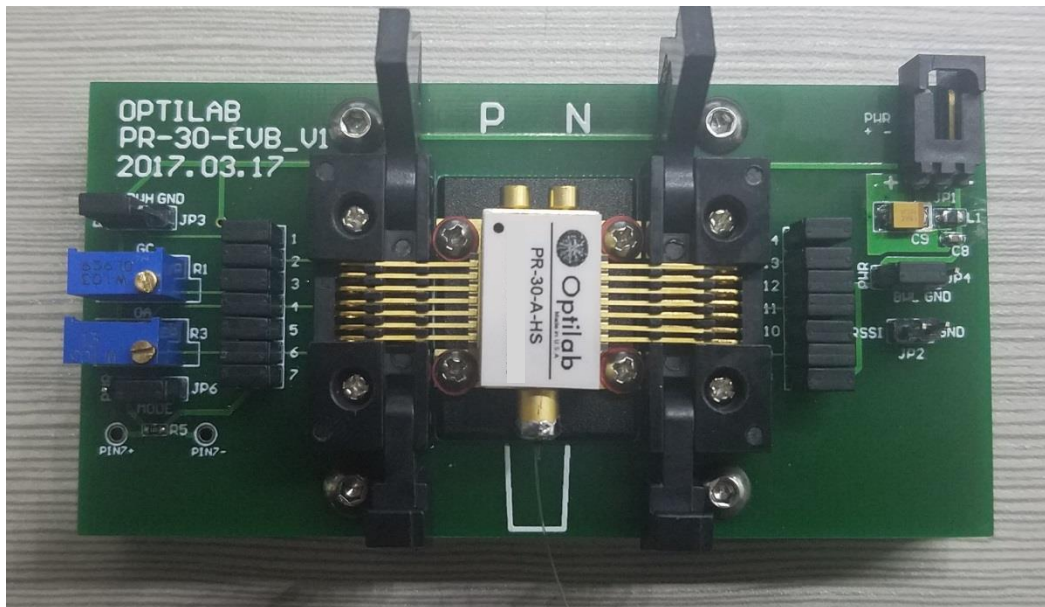

Figure 2. PR-30 mounting procedure
- i) Place PR-30 onto the evaluation board as show in Fig. 2. Pay attention to its orientation. The label P and N denotes the positive and negative RF output ports.